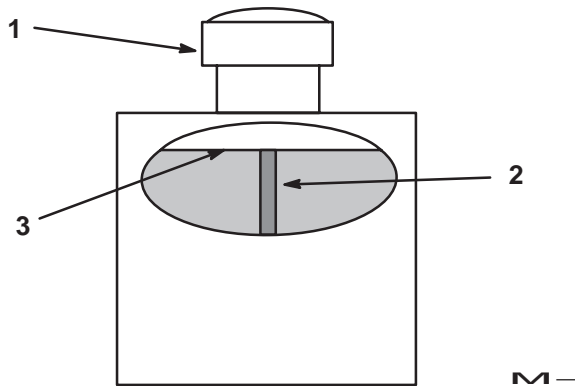

Figure 47
2. Clean area around filler neck of hydraulic tank (Fig. 47).
3. Remove cap from filler neck. Look inside to check if there is fluid in the reservoir (Fig. 47).
Note: Fluid level should be to the top of the baffle when fluid is warm (Fig. 47).